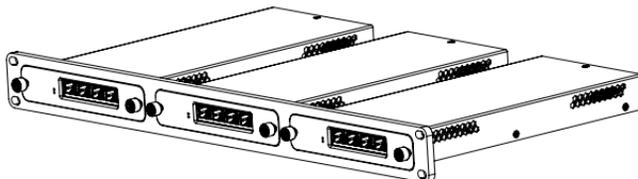

Figure 6 - 1U Version
3. Slide the switches in place in the rack. See Figure 6.